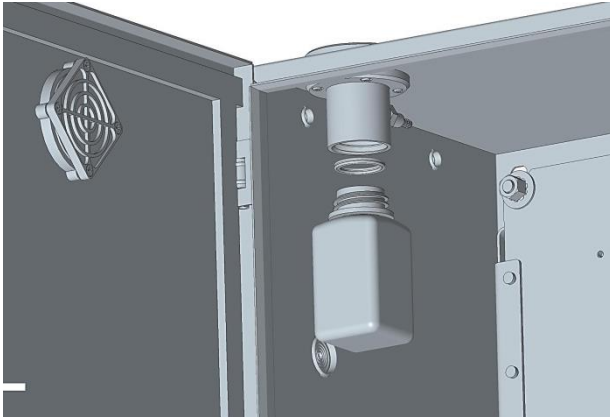

Figure 9: Install the Water Trap Bottle
3. Make sure the bottle has been securely tightened, and that it is in the correct orientation as shown in Figure 9.